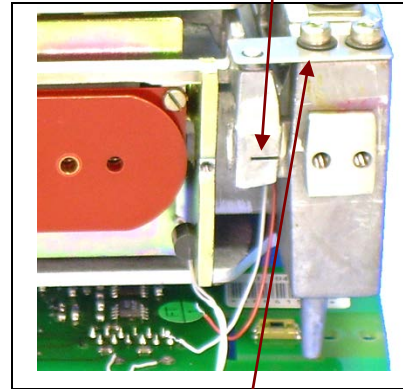

Figure 3-56. Sideways Motion Stop Plate.
- 17. Remove the screws in the Sideways Motion Stop Plate, and lift it off. (See Figure 3-56.)